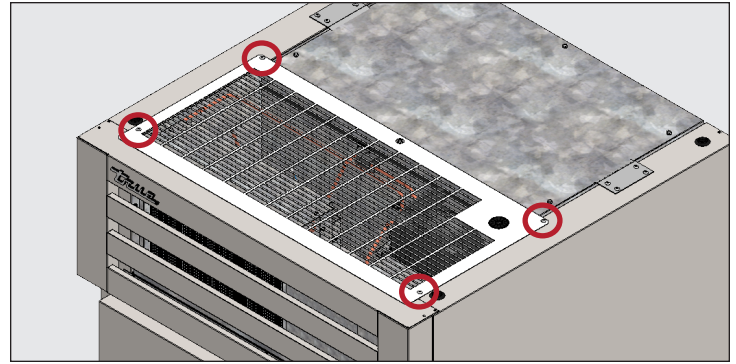

Fig. 1. Top screen screw locations.
2. Remove the top screen screws. See fig. 1.